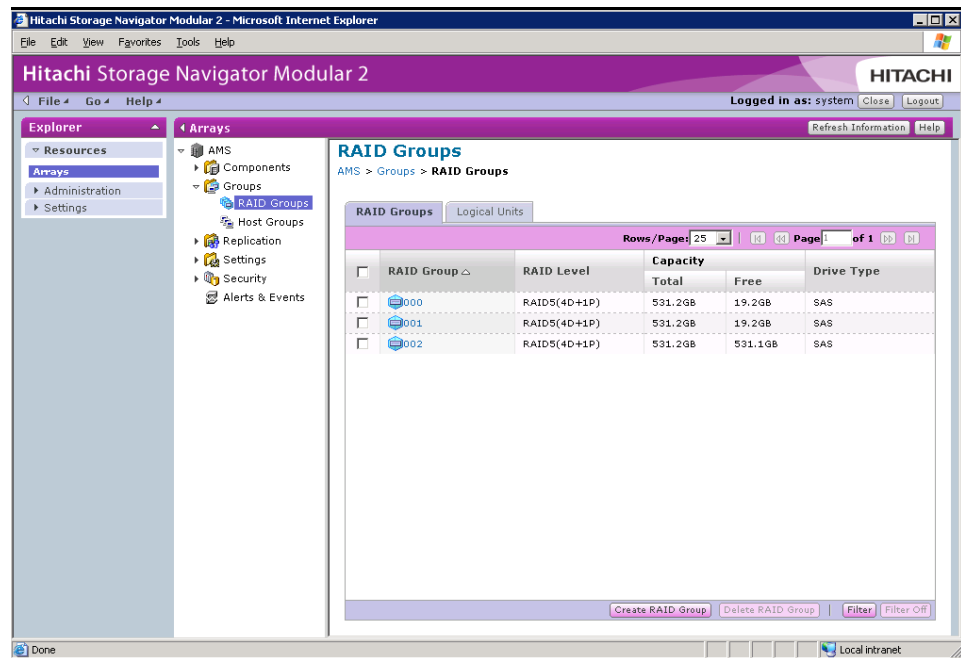

Figure 4-4: Example of RAID Groups Screen
1. In the **Arrays** pane in the center of the Array Properties window, click **Groups > RAID Groups**. A RAID Groups screen similar to the one in Figure 4-4 appears, listing the available RAID groups on the selected array.